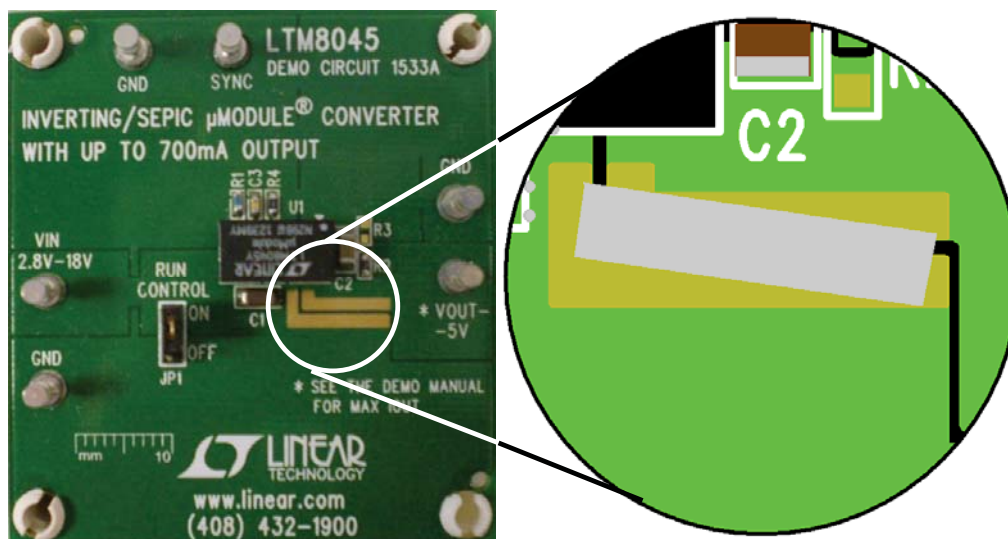

Figure 6
- Solder the exposed copper together with braid to connect the terminal labeled V_{OUT-} to the ground plane, as shown in Figure 6. The terminal labeled V_{OUT-} is now GND.